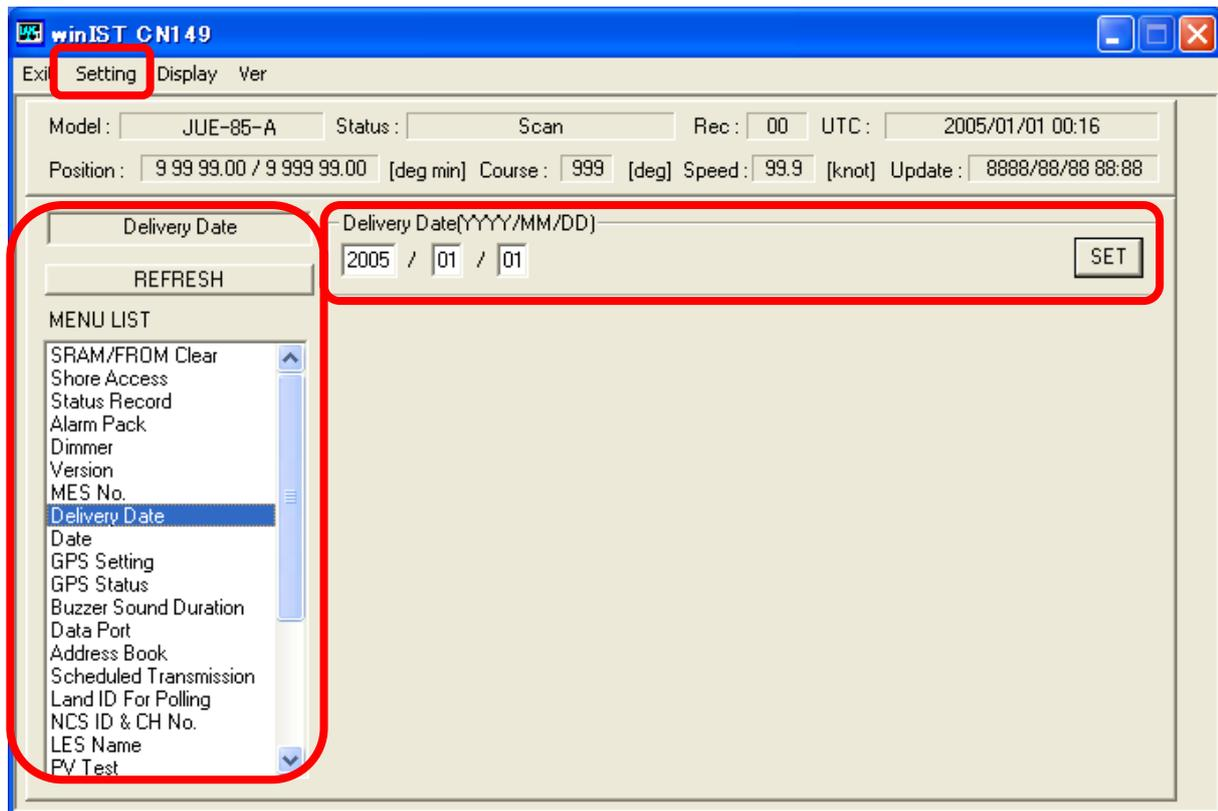

Fig.4-10-1a [Delivery Date] screen
2. Operation except [Exit], [Display], and/or [Ver] is not possible while winIST is communicating with INMARSAT terminal(the function in the frame of **Fig.4-10-1a [Delivery Date] screen** cannot be operated).
4. Operation except [Exit], [Display], and/or [Ver] is not possible while winIST is communicating with INMARSAT terminal (the function in the frame of **Fig.4-10-1a [Delivery Date] screen** cannot be operated.)